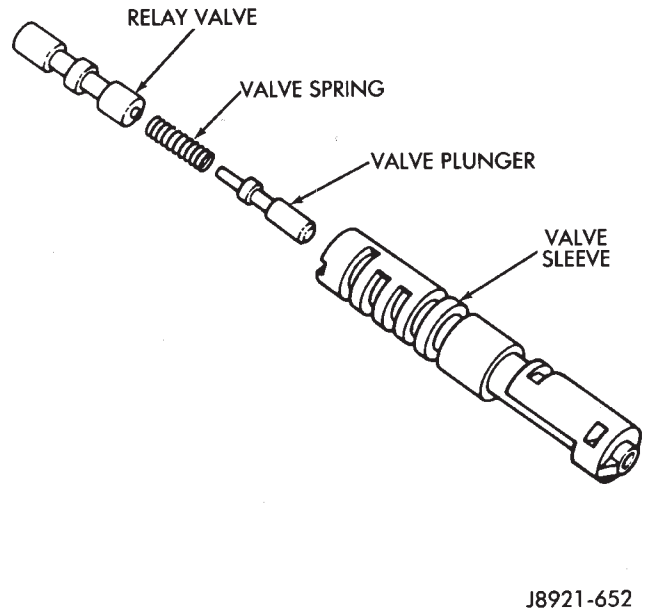

Fig. 9 Relay Valve Components
(9) Remove relay valve, spring and plunger from valve sleeve (Fig. 9).
(7) Assemble lock-up relay valve. Install spring and plunger in valve sleeve (Fig. 9). Then install assembled valve in sleeve.